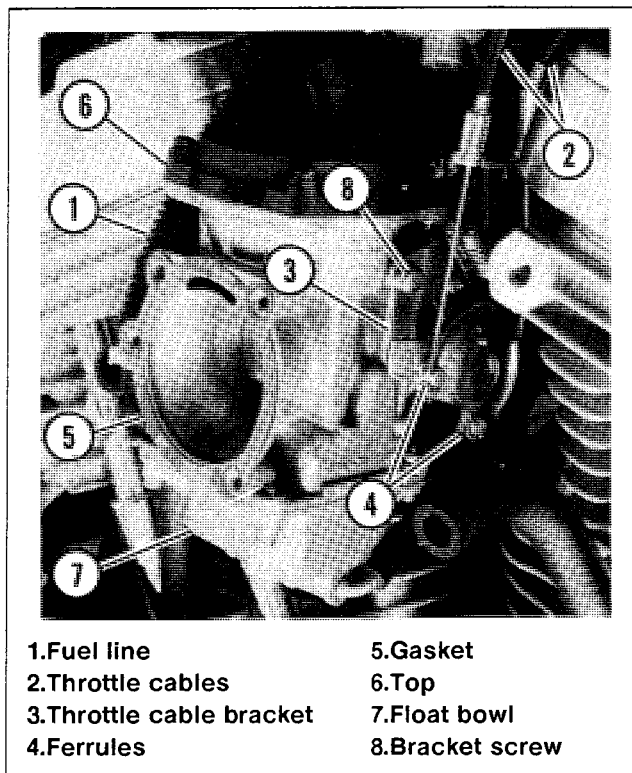

Figure 4. Carburetor Mounting
- See Figure 4. Disconnect throttle cable bracket (3) by removing top and bracket screws. Bracket screw (8) will have to be removed with ratchet type power screwdriver or pliers as this is torqued very tight. After bracket is loose disconnect throttle cable ferrules. Leave bracket hang on cables.
- See Figure 4. Connect throttle cable ferrules to carburetor. Place throttle cable bracket (3) in position with idle screw resting on top of throttle cam stop. Install bracket screw (8) and washer first, then top screw to prevent bending bracket or throttle cam. Route the enrichener control cable over top of the manifold to the other side.